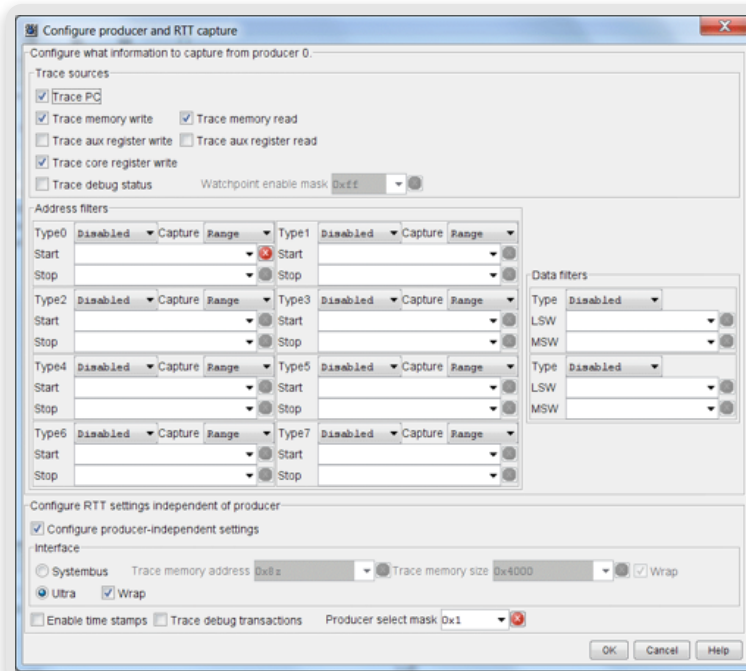

Figure 5: Typical RTT configuration window
1. Developers set up trace sources and filters and select the storage memory if multiple choices are available (for example: on-chip memory or a Nexus-compatible debug pod), then activate tracing. A typical configuration window is shown in Figure 5.